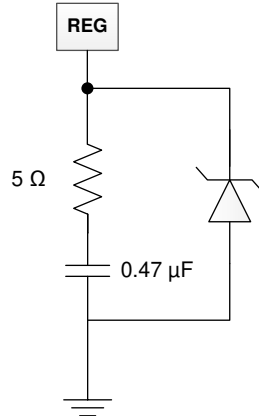

**Figure 9-2. 3-Series BQ2961 and BQ2962 Schematic**
1. If the VSS pin cannot be connected first, it is required to add a resistor of a minimum of  $5\ \Omega$  to a maximum of  $10\ \Omega$  (a  $5\text{-}\Omega$  resistor is used in the reference schematic, Figure 9-2) in series with the REG capacitor. When VSS is floating, the REG capacitor always charges up to the VDD voltage. When VSS is finally connected, the REG capacitor will be discharged. Adding a small resistor in series reduces the current strength and avoids any potential damage to the REG pin. The  $5\text{-}\Omega$  resistor can be placed in series with the REG connect circuit (as shown in Figure 9-2) or in series of the REG capacitor (as shown in Figure 9-3). Placing the resistor in series with the REG circuit results in a small drop of  $V_{REG}$  (for example: max loading of  $I_{REG}$  mA with a  $5\text{-}\Omega$  resistor will drop  $5\text{ mV}$  on  $V_{REG}$ ), but such a connection can protect against rush current discharge from a REG capacitor or an external filter capacitor connected to the REG pin. Placing the resistor in series with the REG capacitor is an alternative to avoiding an additional drop in  $V_{REG}$  if the filter capacitor used by the external circuit is much smaller than the REG capacitor.
3. The cell should be connected to the lower  $V_n$  pin; the unused  $V_n$  pin should be shorted to the  $(V_{n-1})$  pin. See Figure 9-2 for details.